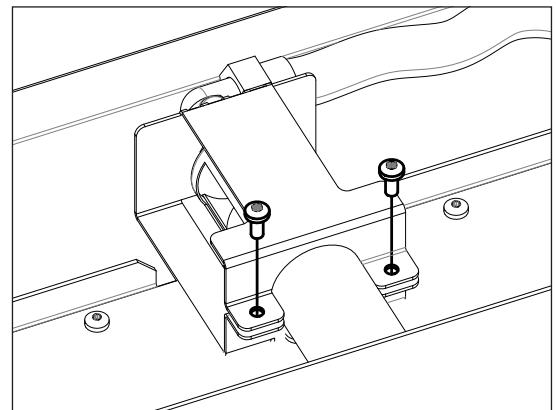

Figure 11: Orifice Mount Clamp
8. Remove the two (2) T-20 screws securing the orifice mount clamp onto the burner (see Figure 11).